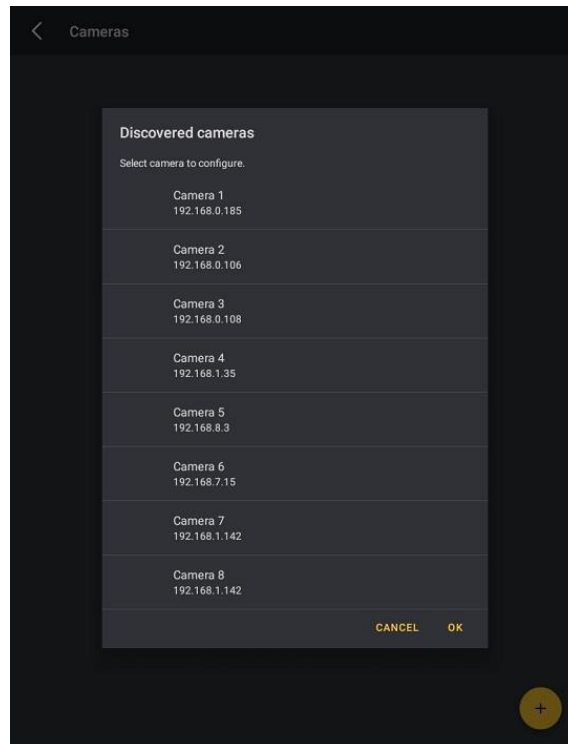

Fig. 12. Discovered cameras.
5. Tap “Discover”. The application will search for cameras working in the same network as the mobile device (Fig. 12).
8. Select at least one video stream (Fig. 12). Different streams offer different image quality. Tap the profile name to change the camera name displayed on the list of cameras. Tap  to preview the camera footage. Tap “OK” to confirm your selection.